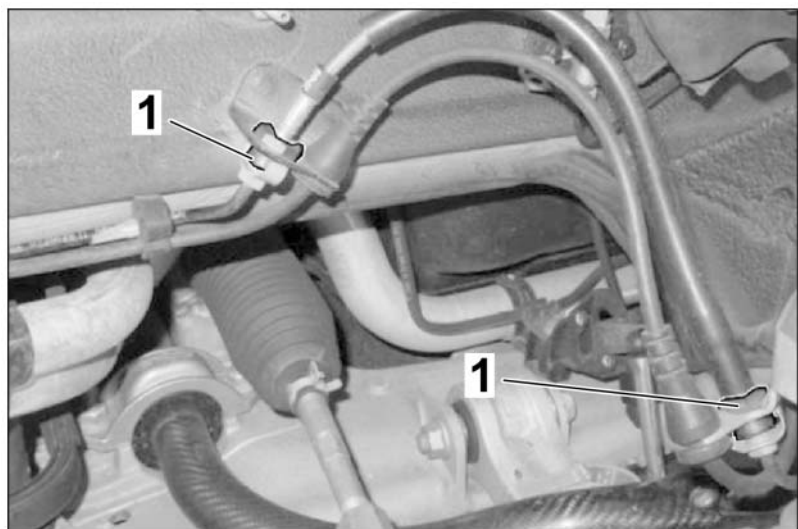

Figure 20
5. - Mount left and right brake-disc air guides \Rightarrow Figure 20.